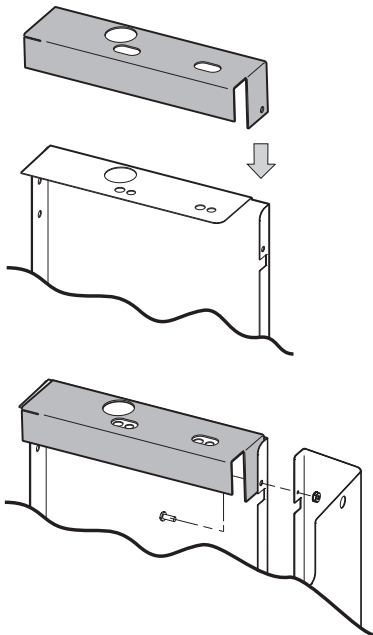

Figure 2
2. Place the base support brackets on the side panels. Slide the short flanges on the brackets between the top and side flanges of the side panels. See Figure 2.